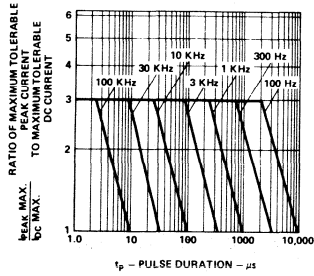

Figure 5. Maximum Tolerable Peak Current vs. Pulse Duration. (I_{DC} MAX as per MAX Ratings)
- See Figure 5 (Red/Orange), 10 (Yellow), or 15 (Green) to establish pulsed operating conditions.